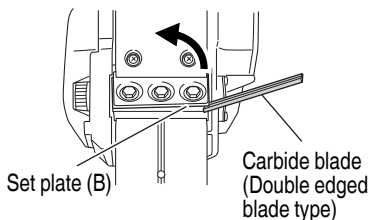

Fig. 16
- (1) As shown in Fig. 16, lift set plate (B) and insert the new carbide blade between cutter block and set plate (B).